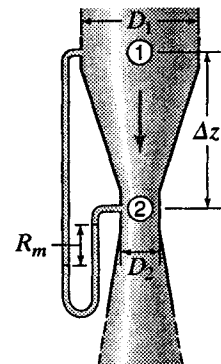

Figure S11.4
11.7.2 The venturi meter of Fig. S11.4 has  $D_1 = 200$  mm,  $D_2 = 100$  mm, and  $\Delta z = 450$  mm. Assume the discharge coefficients of Fig. 11.19 are applicable. Find the flow rate of 20°C water when the manometer containing carbon tetrachloride ( $s = 1.59$ ) reads  $R_m = 100$  mm.